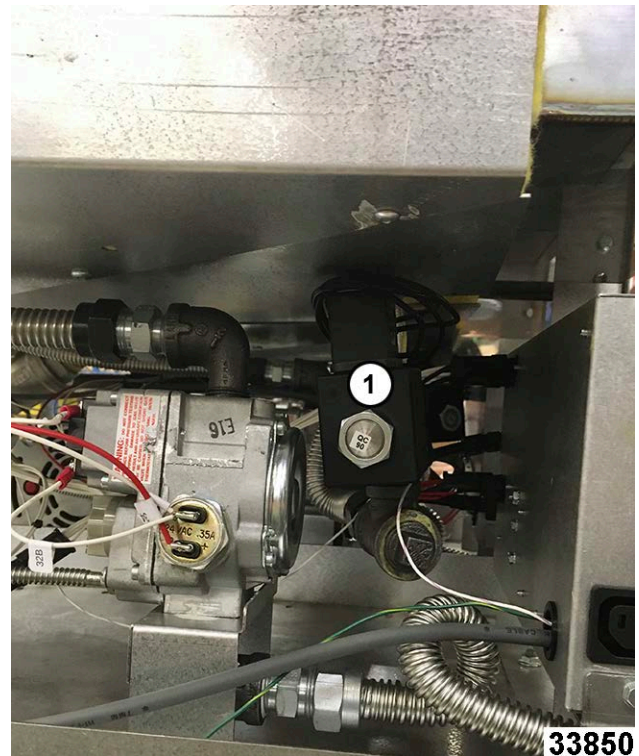

Fig. 21
- Remove solenoid (1, Fig. 21).